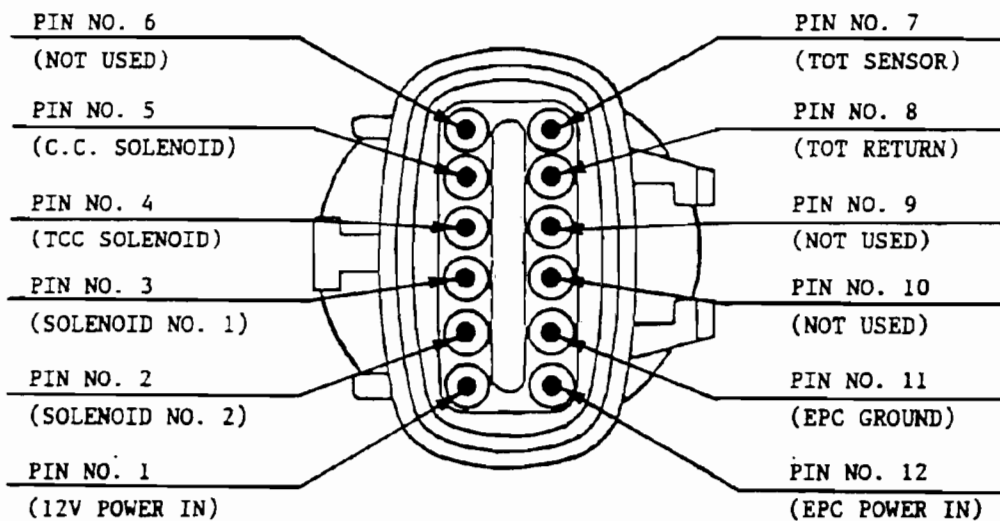

Figure 6
- Connect the ohmmeter leads to pins 11 and 12 (See Figure 6) resistance should be 4.25-6.50 ohms.
1. Connect the ohmmeter leads to pins 7 and 8 (see Figure 6), and refer to the following chart for resistance readings.